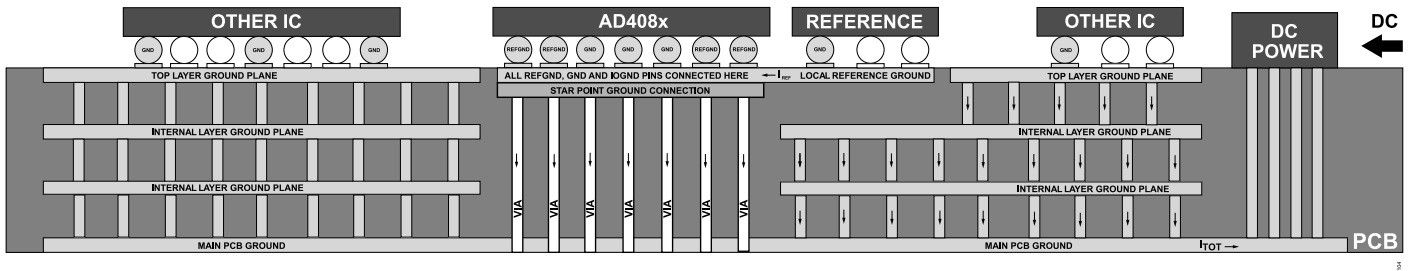

Figure 107. Recommended PCB Ground Planes Layout
- ▶ See Figure 107 for the side view cross-section of the PCB board showing the ground planes distribution. Note that Figure 107 only shows the ground planes but does not including the signal tracks.